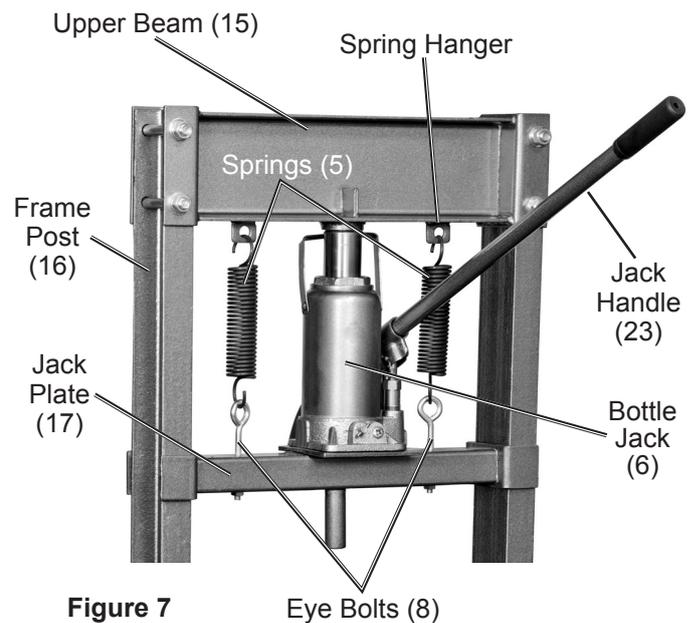

Figure 7
- Hang the Springs (5) on the spring hangers located on the bottom of the Upper Beam (15). See Figure 7.
- Bleed the Bottle Jack (6) (see Bleeding the Bottle Jack section) and make sure it is fully collapsed. Place the Bottle Jack on the center of the Jack Plate (17), align it with two mounting holes in the Jack Plate and secure with two Bolts (7). Slide the Jack Plate up the Frame Posts (16) so the Bottle Jack Saddle fits in the bracket on the center underside of the Upper Beam. Hook the Springs into the Eye Bolts (8) on the Jack Plate to secure the Bottle Jack/ Jack Plate in place. See Figure 7.